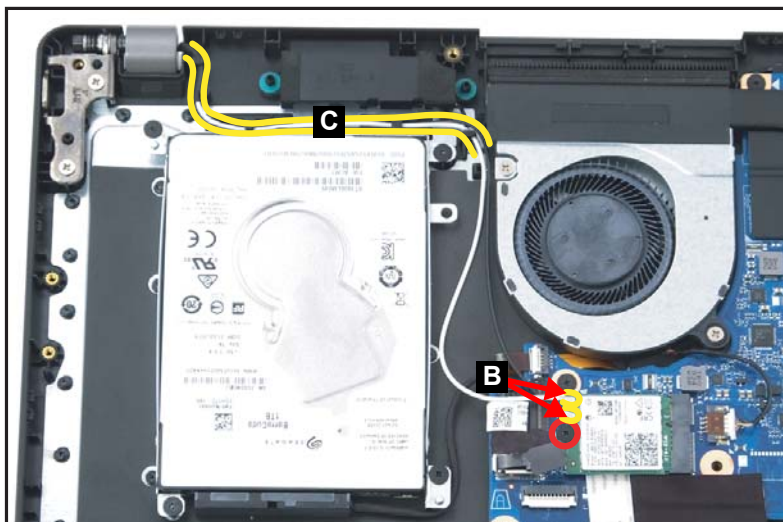

Figure 1-10. WLAN Module Removal
2. Disconnect the WLAN antennas cables from the WLAN module connectors (B) (Figure 1-10). Then remove the WLAN antennas cables (C) from the cable guides as shown in Figure 1-10.
3. Remove one (1) screw securing the WLAN module in place (Figure 1-10).